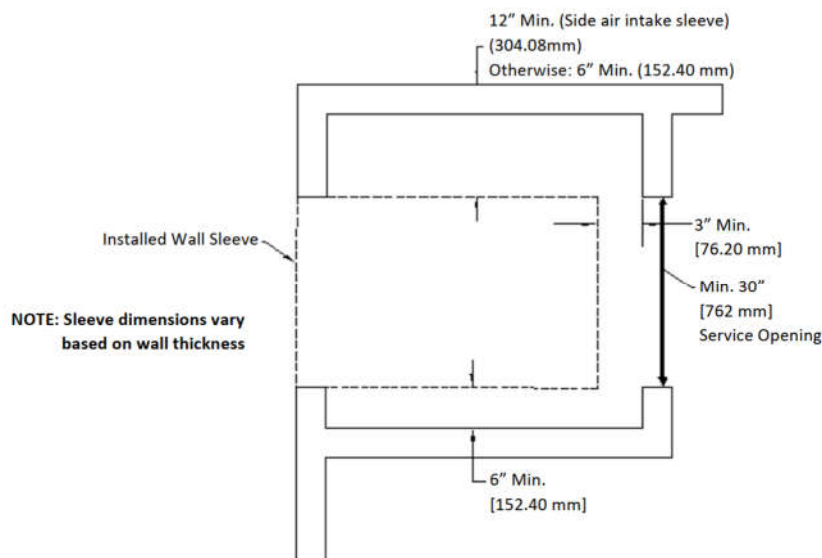

FIGURE 10 - Rear Installation
- Sleeve rough-in opening is 43-1/2 in. (H) [110.49 cm] x 26-3/4 in. (W) [67.94 cm].
- Minimum of 3 in. [7.62 cm] of clearance is required on all sides, except ERV fresh air (supply air) side, of the FRESH-PAK unit. See -FIGURE 10- Rear Installation.